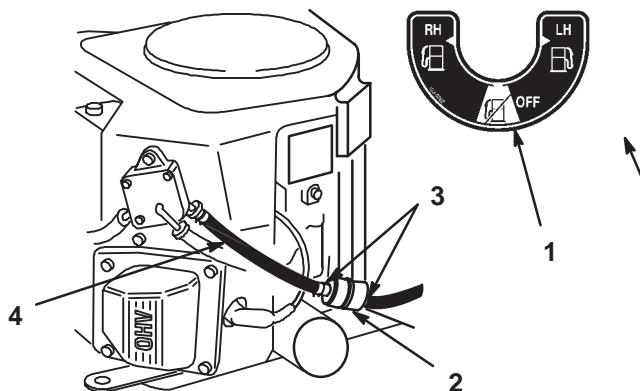

Figure 31
- Install a new filter and move the hose clamps close to the filter (Fig. 31).
- Close fuel shut-off valve (Fig. 31).
- Loosen the hose clamp at the fuel filter and slide it up the fuel line away from the fuel filter (Fig. 31).
- Pull the fuel line off fuel filter (Fig. 31).
- Open fuel shut-off valve for left and right tanks. Allow gasoline to drain into a gas can or drain pan (Fig. 31).
6. Install the fuel line onto the fuel filter. Slide the hose clamp close to the fuel filter to secure the fuel line (Fig. 31).